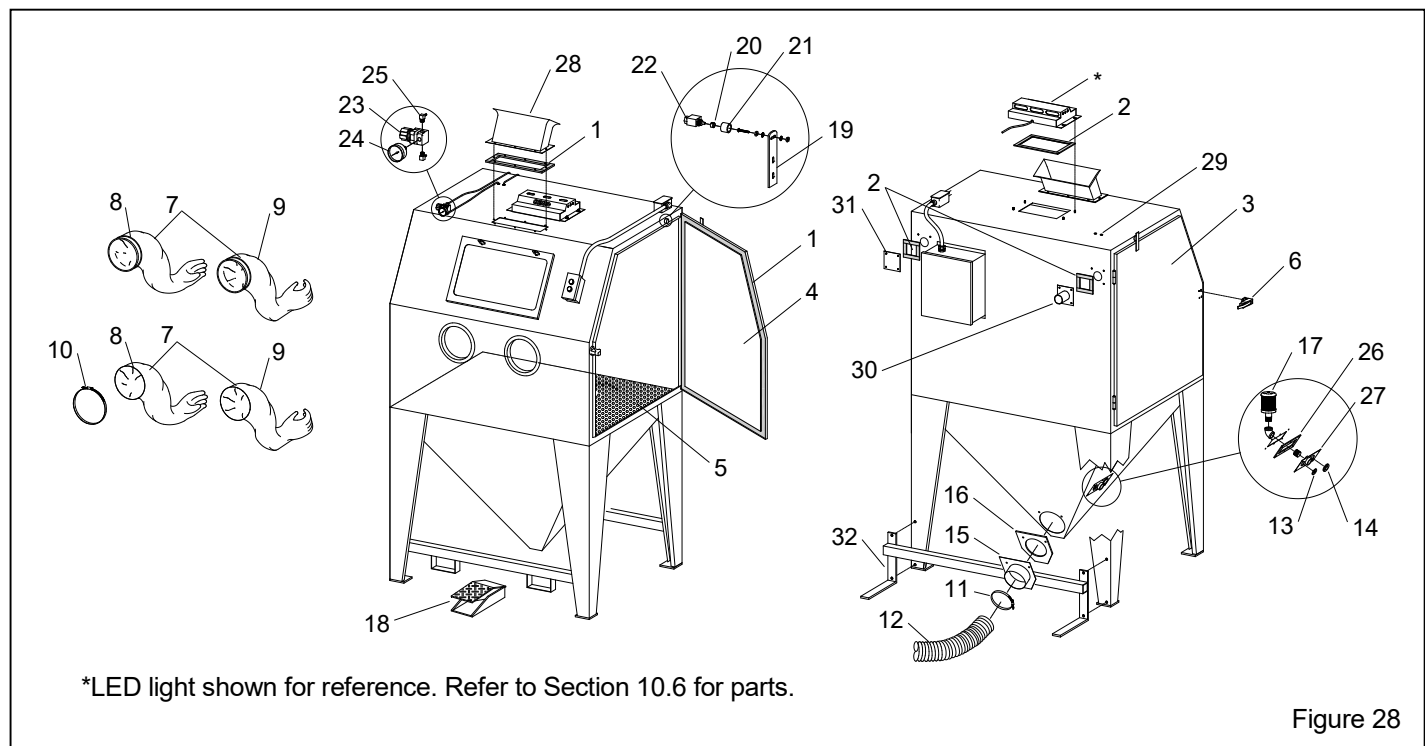

Figure 28
9.11.1 Inspect the exhaust hose and outlet muffler for blockage. The muffler (Item 17 – Figure 28) is located on the inside of the cabinet hopper.
10.2 Cabinet Replacement Parts – Figure 28